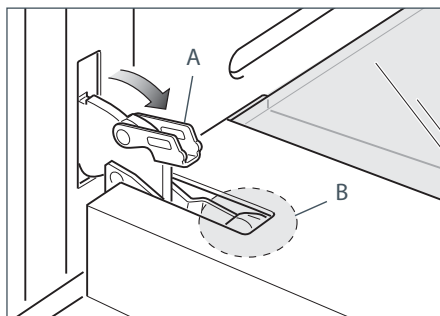

Fig.48b
- 2 Open the lever "A" completely on the left and right hinges (Fig. 48b).